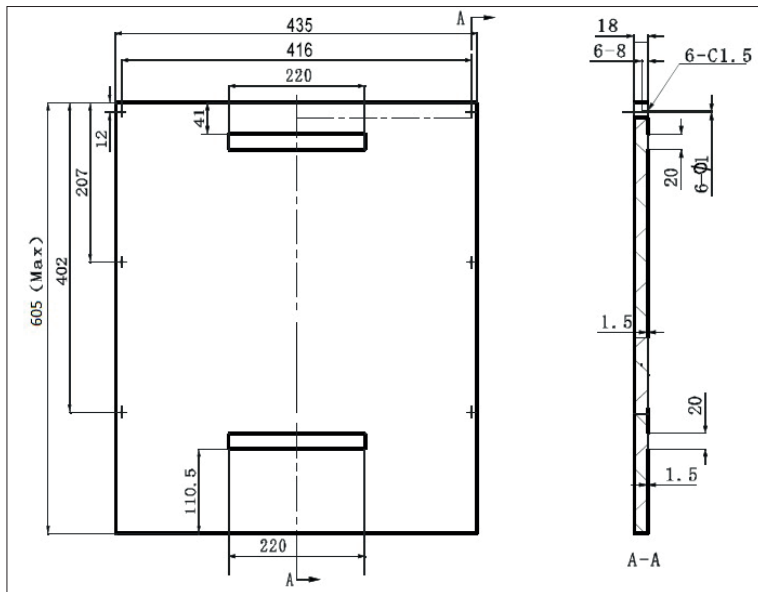

Fig. 16
- The dimensions and location of holes on the cover plate are shown in Fig. 16. The dimensions are given in mm.